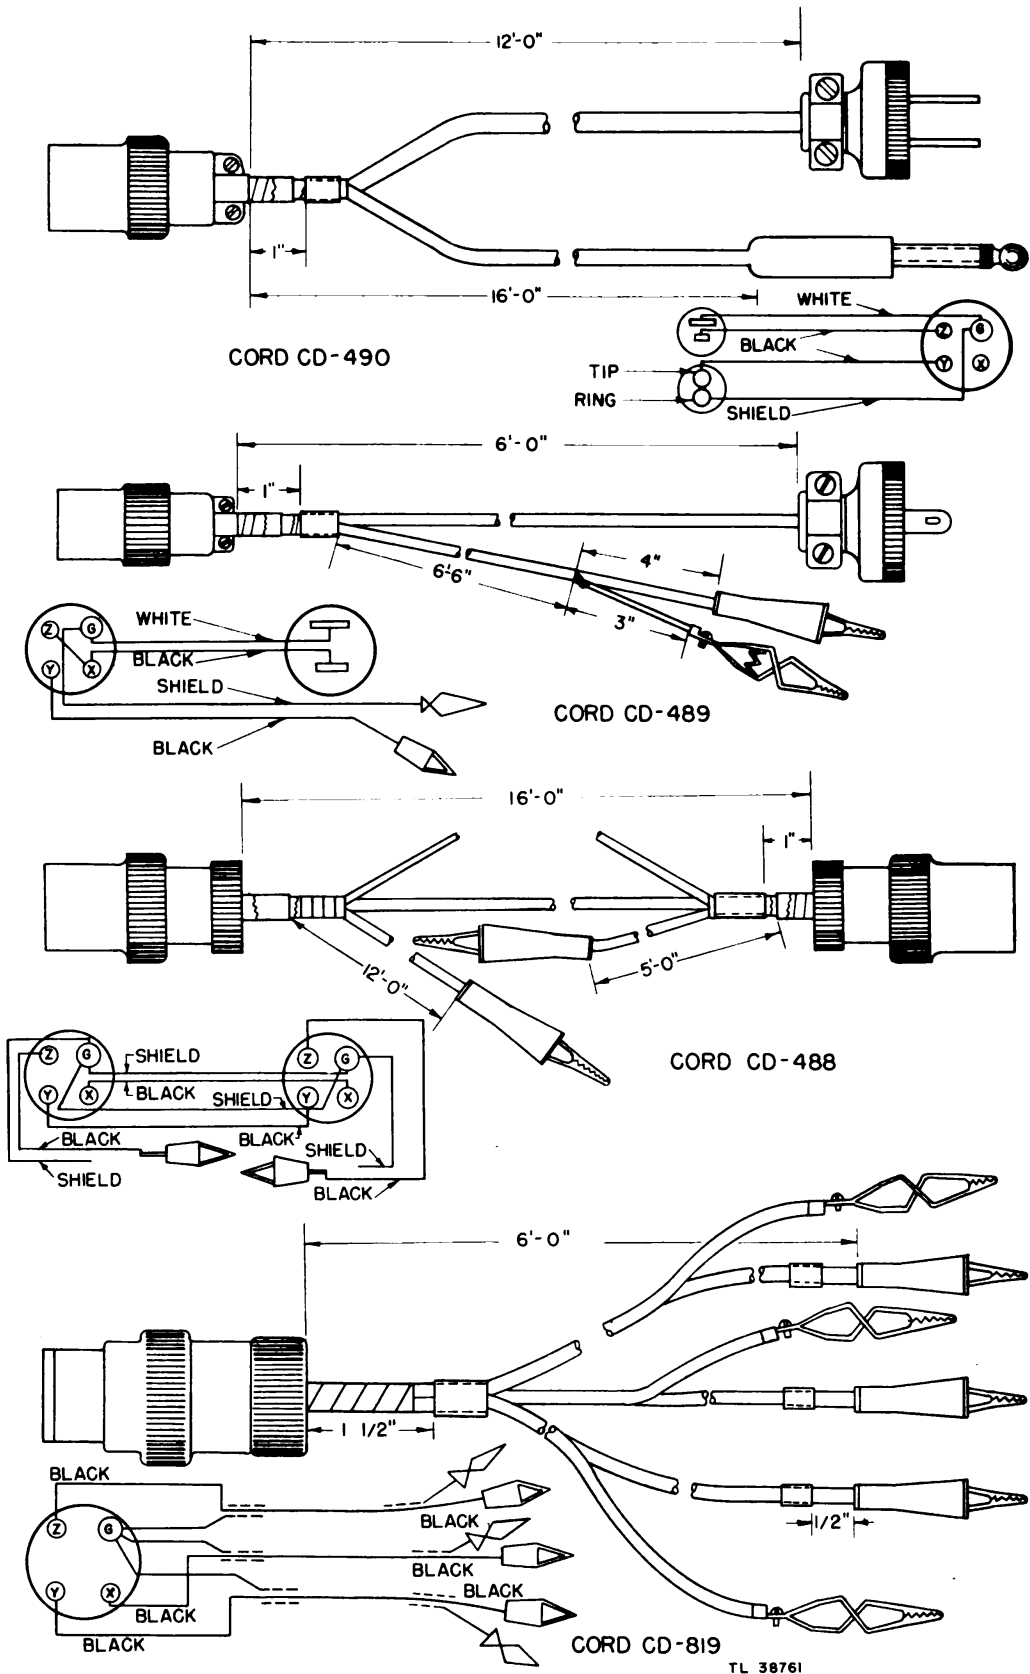

Figure 18. Test Cords, sketch.
**b. Cord CD-488 (fig. 18).** Cord CD-488 is a 12-foot, 3-conductor, rubber-covered cable used to connect the output of the radio receiver to the input of the oscilloscope while mounted on the trailer. It is a shielded cable with a 4-pole male plug on each end. One of the conductors is opened 5 feet from one end, and the two ends are each connected to a crocodile clip which is covered with a black rubber insulator.
**c. Cord CD-489 (fig. 18).** Cord CD-489 is a 6-foot, 2-conductor, and a 6-foot, single-conductor cable used to supply power to the keying unit and to obtain a synchronous voltage. The 6-foot, 2-conductor cable is rubber-covered. The 6-foot, single-conductor cable is shielded and rubber-covered. Both are connected on one end to a 4-pole female plug. The free end of the single conductor is connected to an insulated crocodile clip and the shield is also connected to an insulated crocodile clip. The 2-conductor cable is connected at its free end to a polarized plug cap.
**d. Cord CD-490 (fig. 18).** Cord CD-490 is a 12-foot, 2-conductor, and 16-foot, single-conductor cable used to supply power to the oscilloscope, and a synchronous sweep voltage from the radio modulator. The 2-conductor cable is rubber covered. The single-conductor cable is shielded and rubber covered. The 2-conductor and single-conductor cables are connected on one end to a 4-pole male plug. The 2-conductor cable is connected at the other end to a polarized plug cap. The other end of the single-conductor cable is connected to Plug PL-55.
i. **Cord CD-819 (fig. 18).** Cord CD-819 is a 6-foot cable composed of three 6-foot lengths of single conductor, individually shielded, and rubber-covered. It is used to connect the audio-frequency signal generator to the oscilloscope when testing the vertical line and spread on the oscilloscope. One end of each conductor is connected to a 4-pole female plug. The other ends, shields and conductors, are connected to six crocodile clips. Rubber insulators are placed over the clips connected to the conductors.